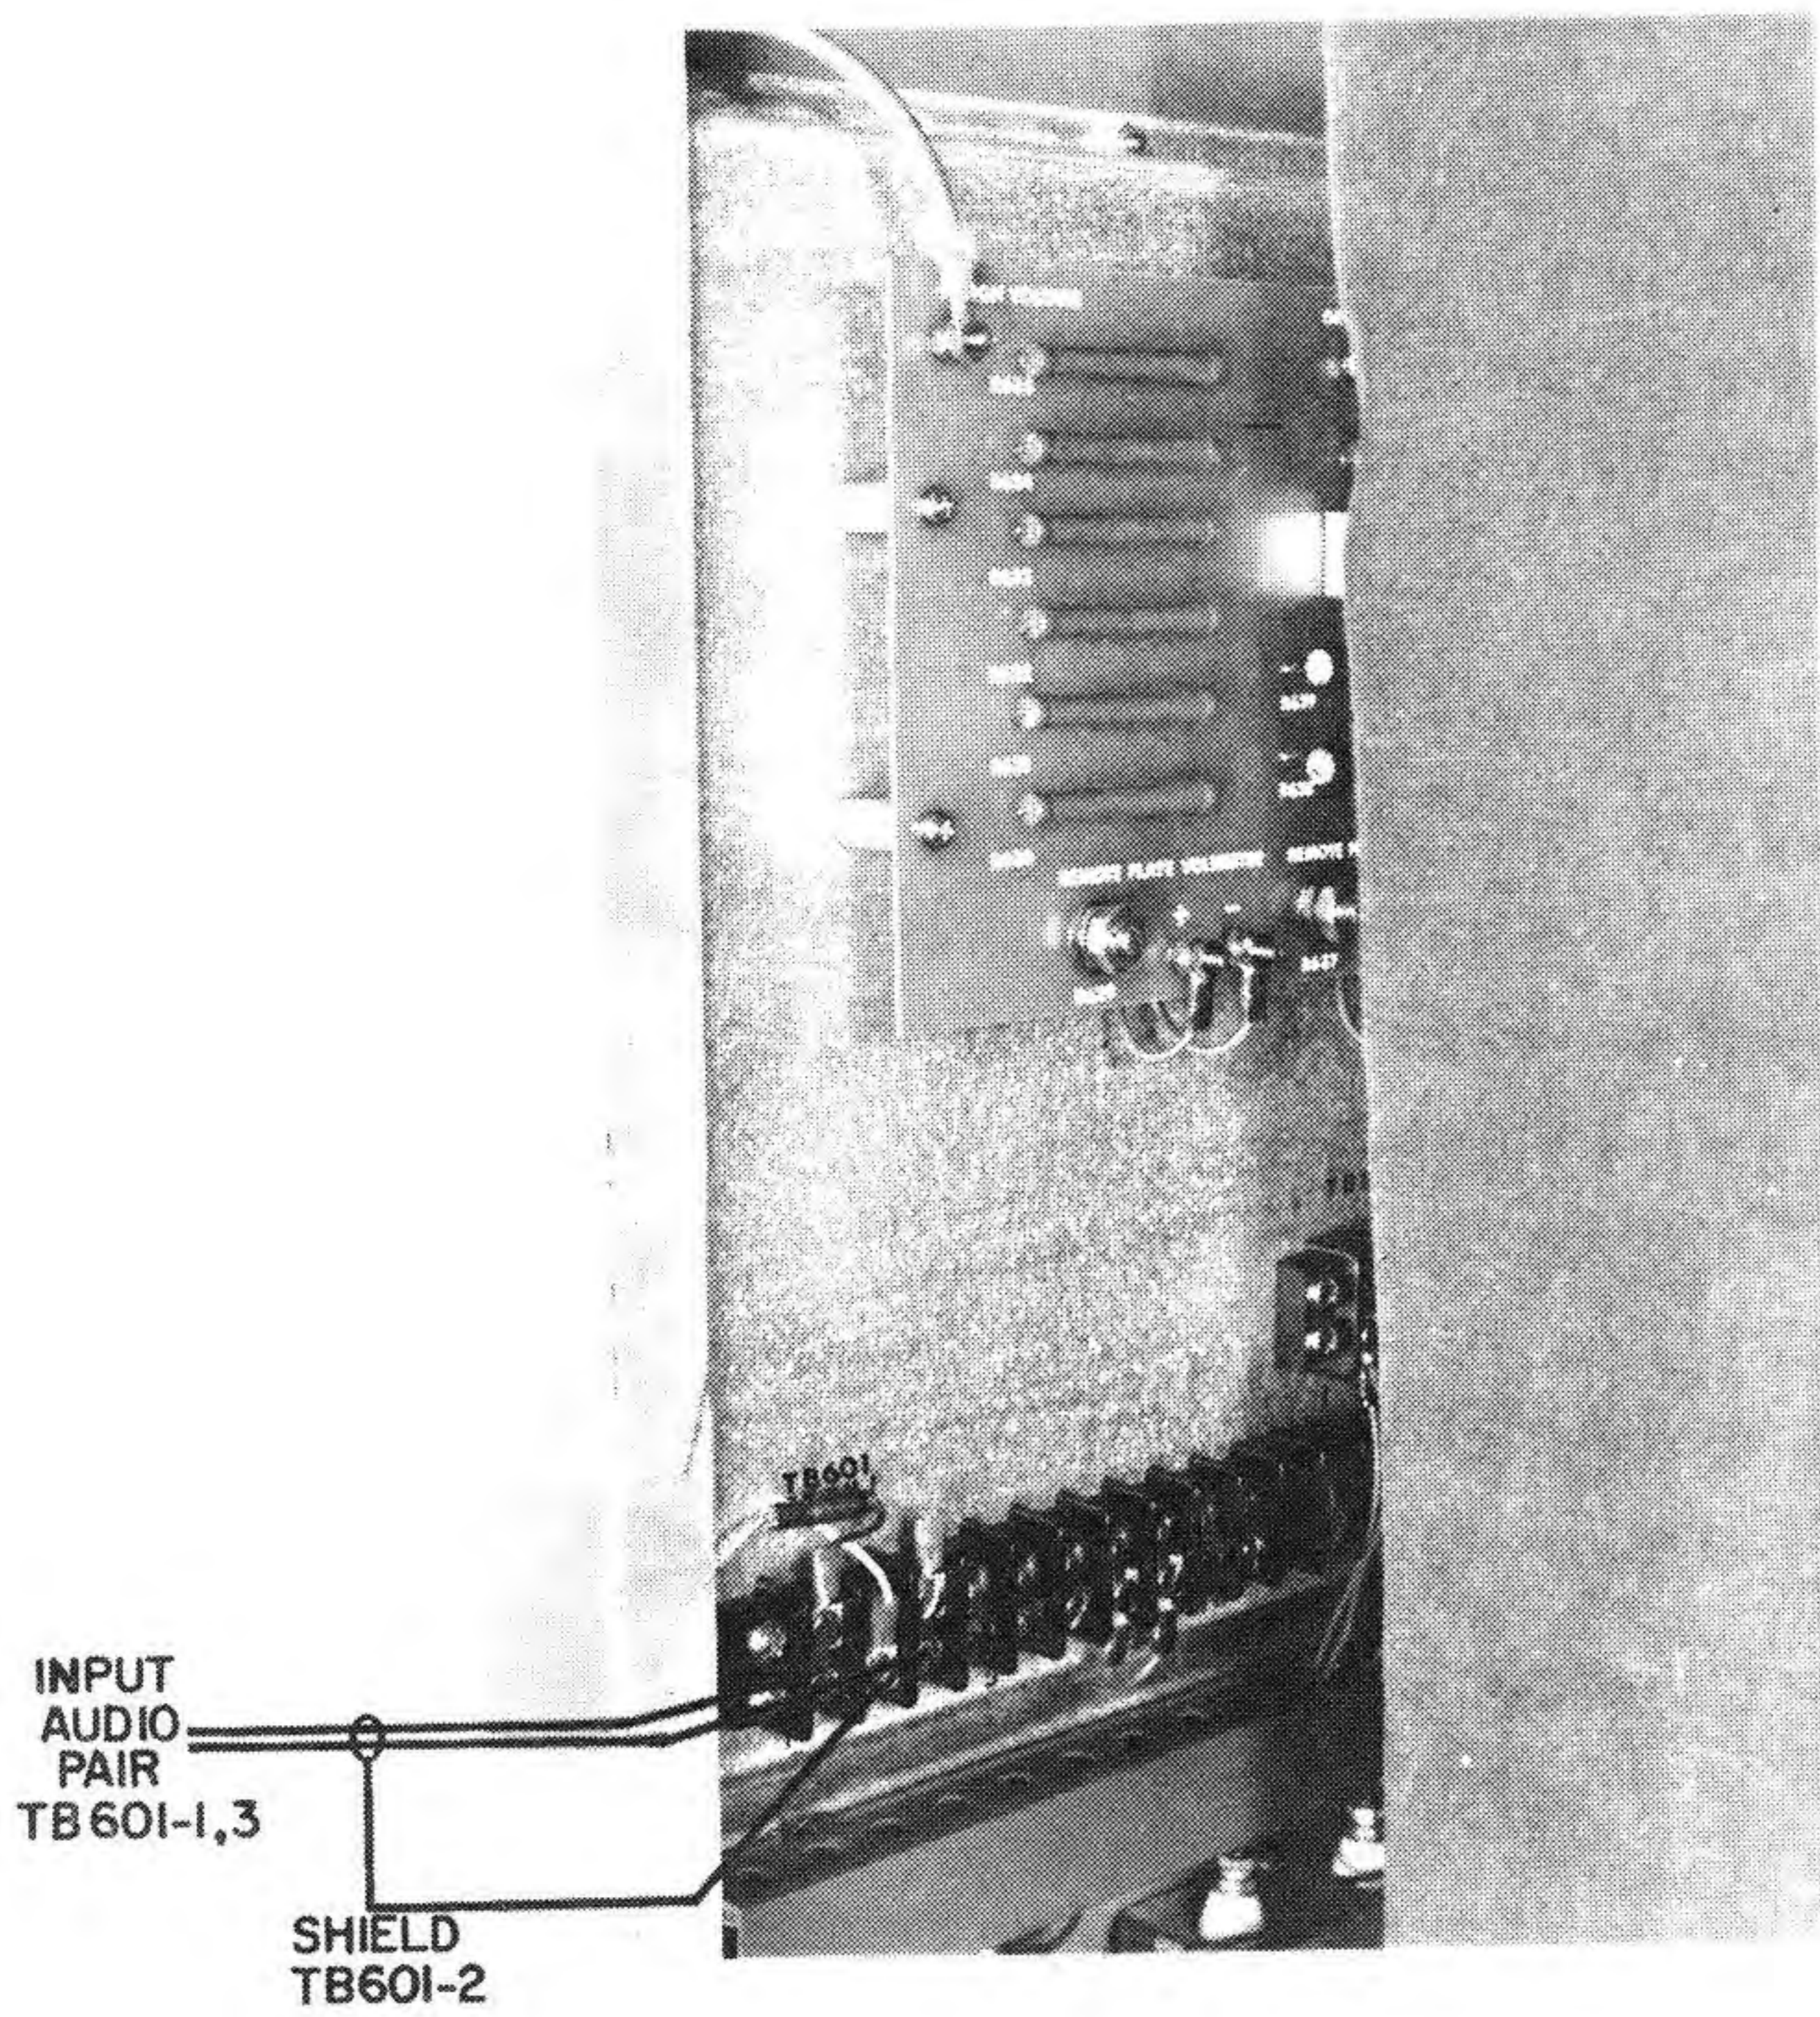

FIG. 4
5. Connect the shielded audio line to the terminal board TB601 shown in Fig. 4, Page 7, grounding the shield to terminal #2 and connecting the two wires to terminals #1 and #3. The audio input impedance is 600 ohms and input level required is about +5 dbm. If a limiting amplifier is used adjacent to the transmitter such as the Gates SA39B, the output of the limiter is often connected to these terminals.
FILAMENT ON: Connect to terminals 4 and 5 of terminal board TB601. See Fig. 4, Page 7. This is the same terminal board to which you have earlier connected the audio input line.